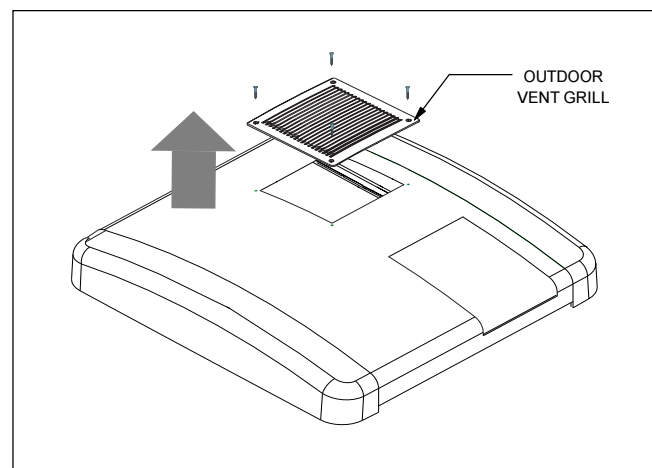

Figure 3. Removal of Outdoor Exhaust Grill.
1. Remove the vent exhaust grill by removing the four screws which retain it. The grill and the screws may be discarded (See Figure 3).